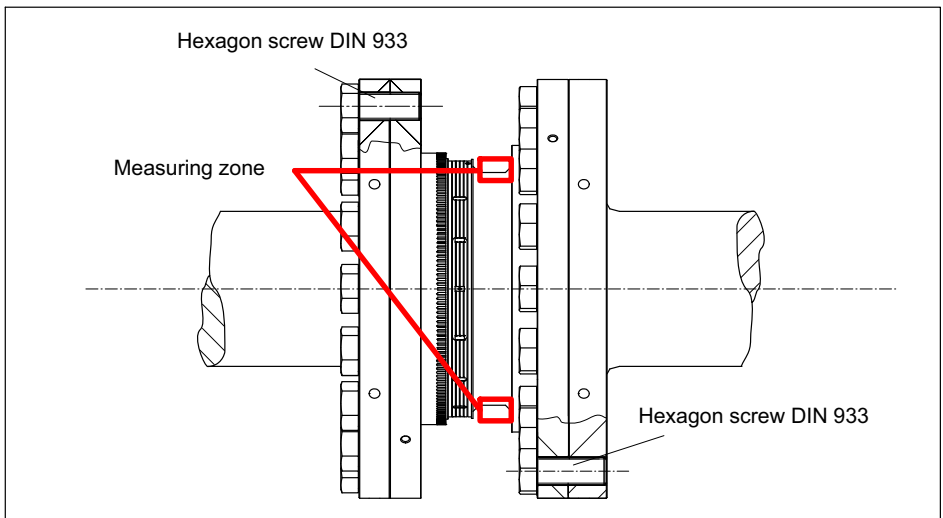

Fig. 5.5 Bolted rotor connection
Make sure during installation that you do not damage the measuring zone marked in Fig. 5.5 by using it to support tools or knocking tools against it when tightening screws, for example. This can damage the transducer and produce measurement errors, or even destroy the transducer.
2. For connection of the flange, (see Fig. 5.5) use hexagon screws DIN 933 of a suitable length (dependent on the connection geometry, see Tab. 5.1 on Page 24).